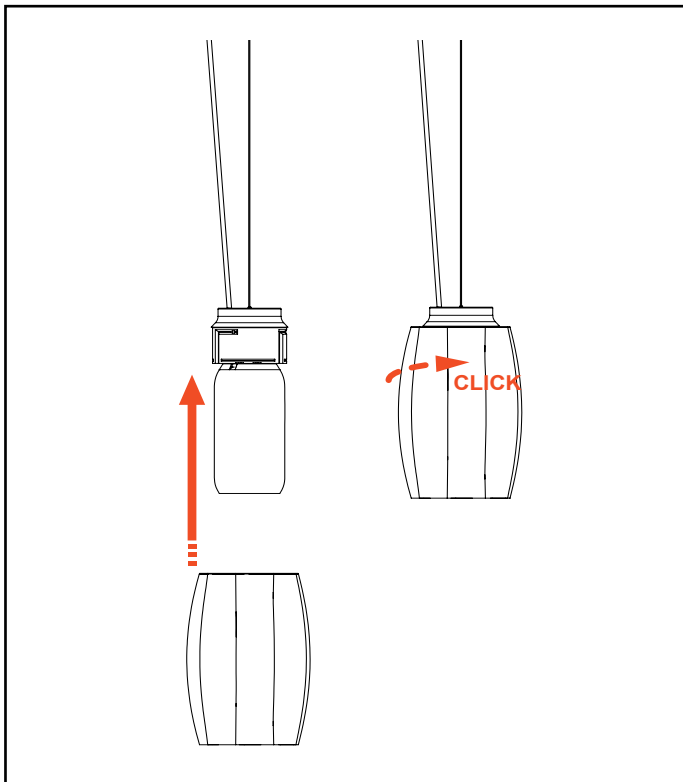

Figure 14
18. Install shade over light engine/diffuser subassembly by inserting into grooves and twisting to lock in place. (Figure 14)